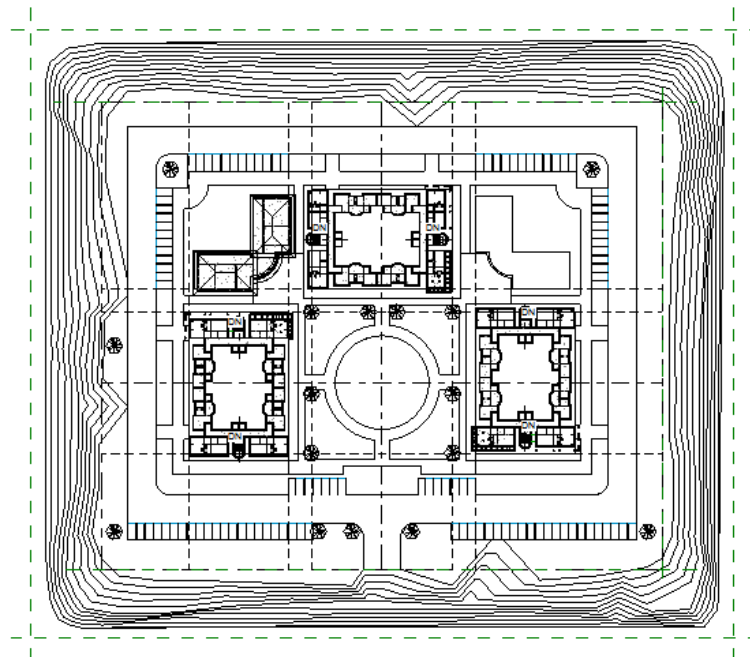

Figure 16-76 *Placing the linked Club project over the building pad*
9. Similarly, link and place the *c14_Club_tut2.rvt* file (for Metric *M_c14_Club_tut2.rvt* file) and place it into the *Site Plan* project, as shown in Figure 16-76.